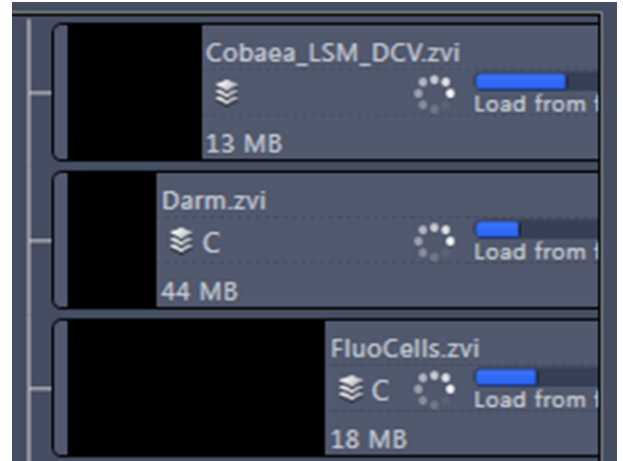

Fig. 707 Image progress bar
- A progress bar (Fig. 707) is shown for each image facilitating the overview if e.g. many processing function are running at the same time.